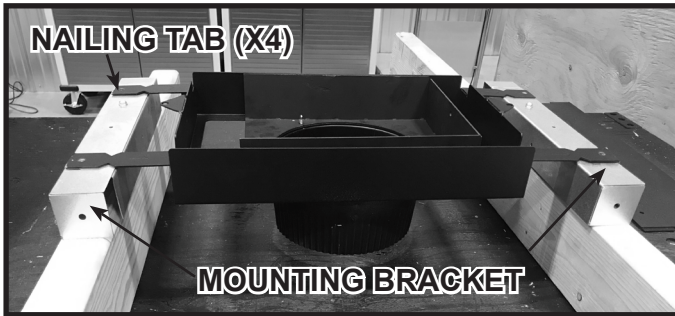
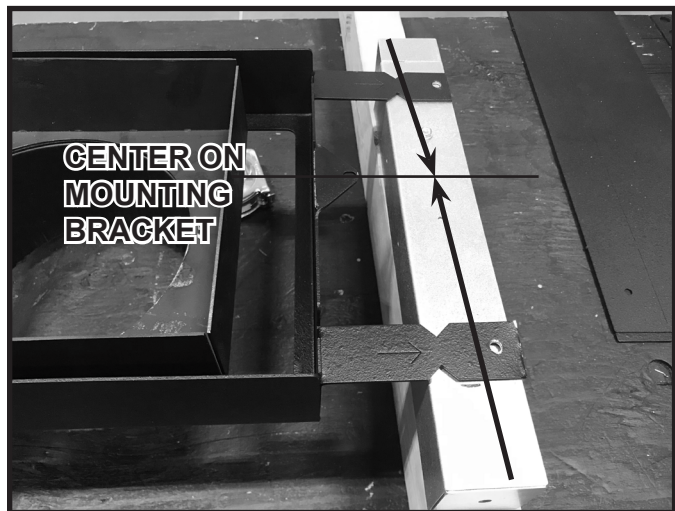

Figure 8.12 Mounting Bracket Assembly Fastened to Nailing Tabs
Figure 8.13 Center Discharge Assembly on Mounting Bracket
- On a flat surface, mount a mounting bracket assembly to the end of the nailing tabs on each side of the discharge assembly. See Figure 8.12. Make sure that the discharge assembly is centered on the mounting bracket assembly as shown in Figure 8.13. Repeat this process for both discharge assemblies.